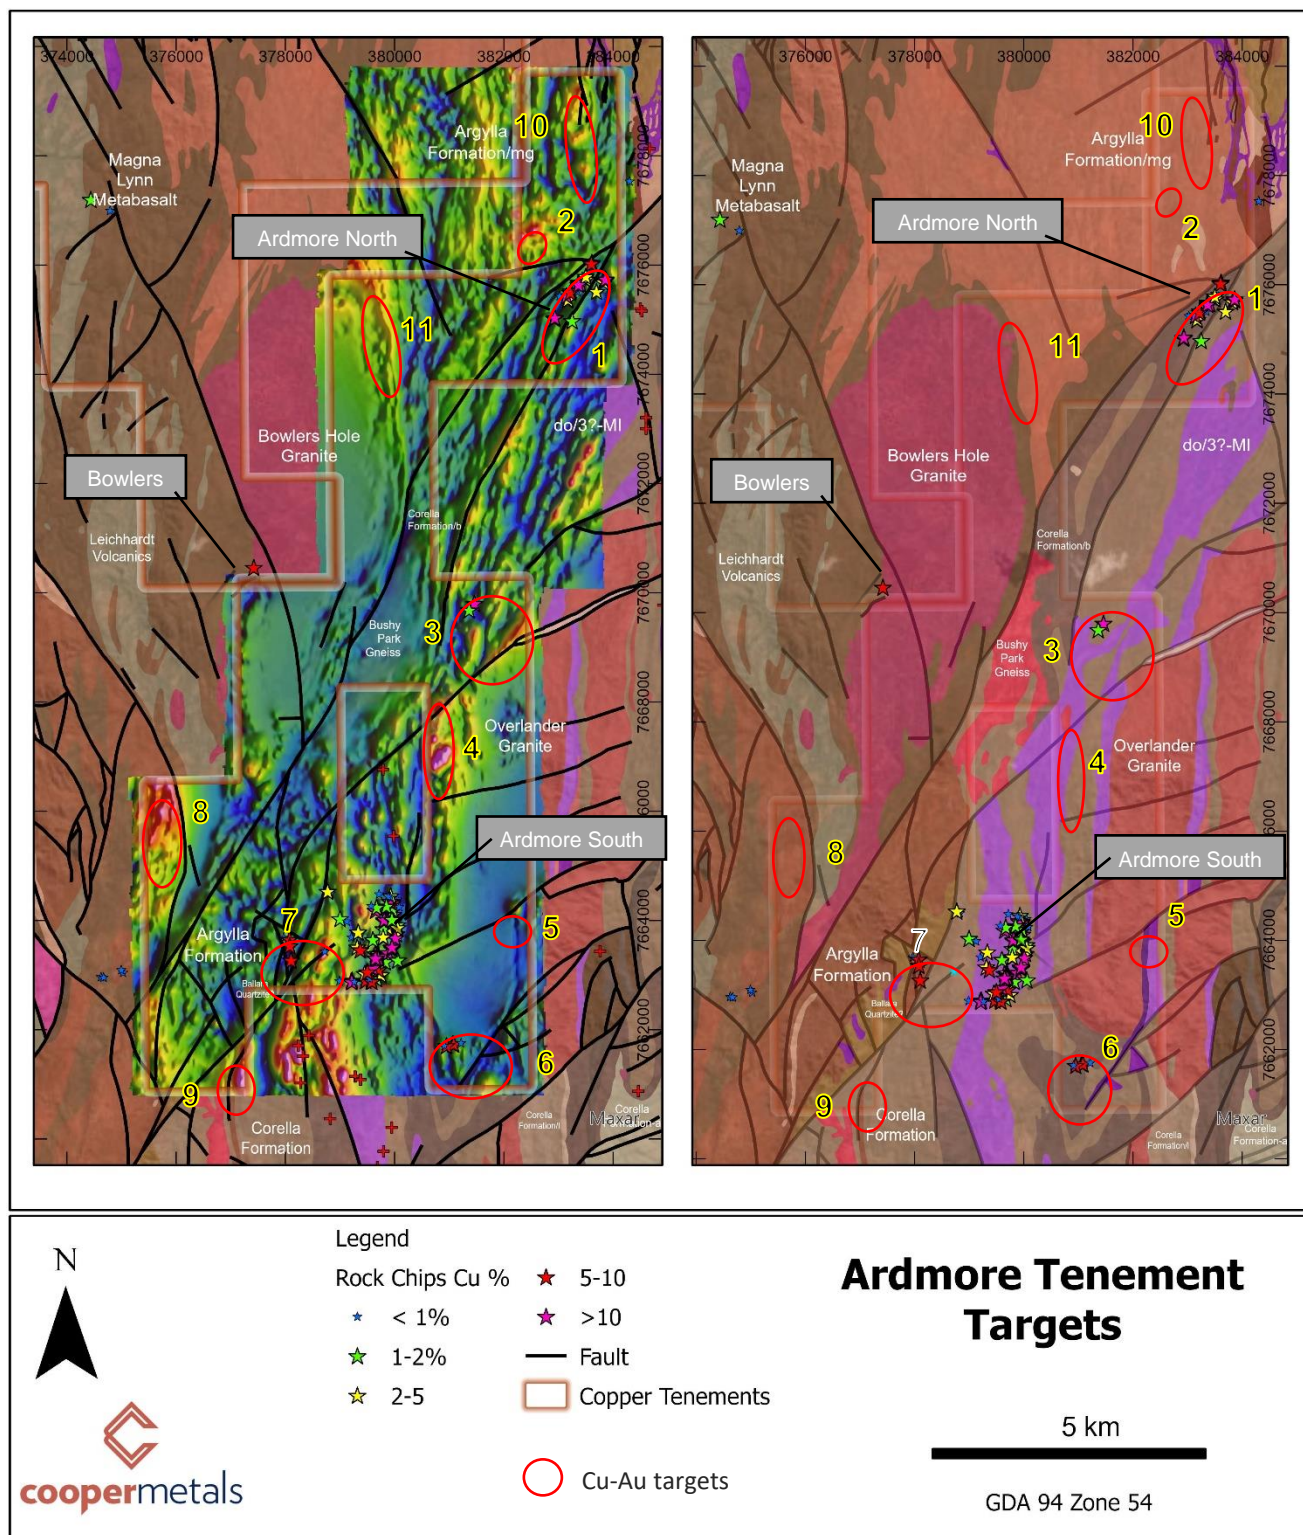
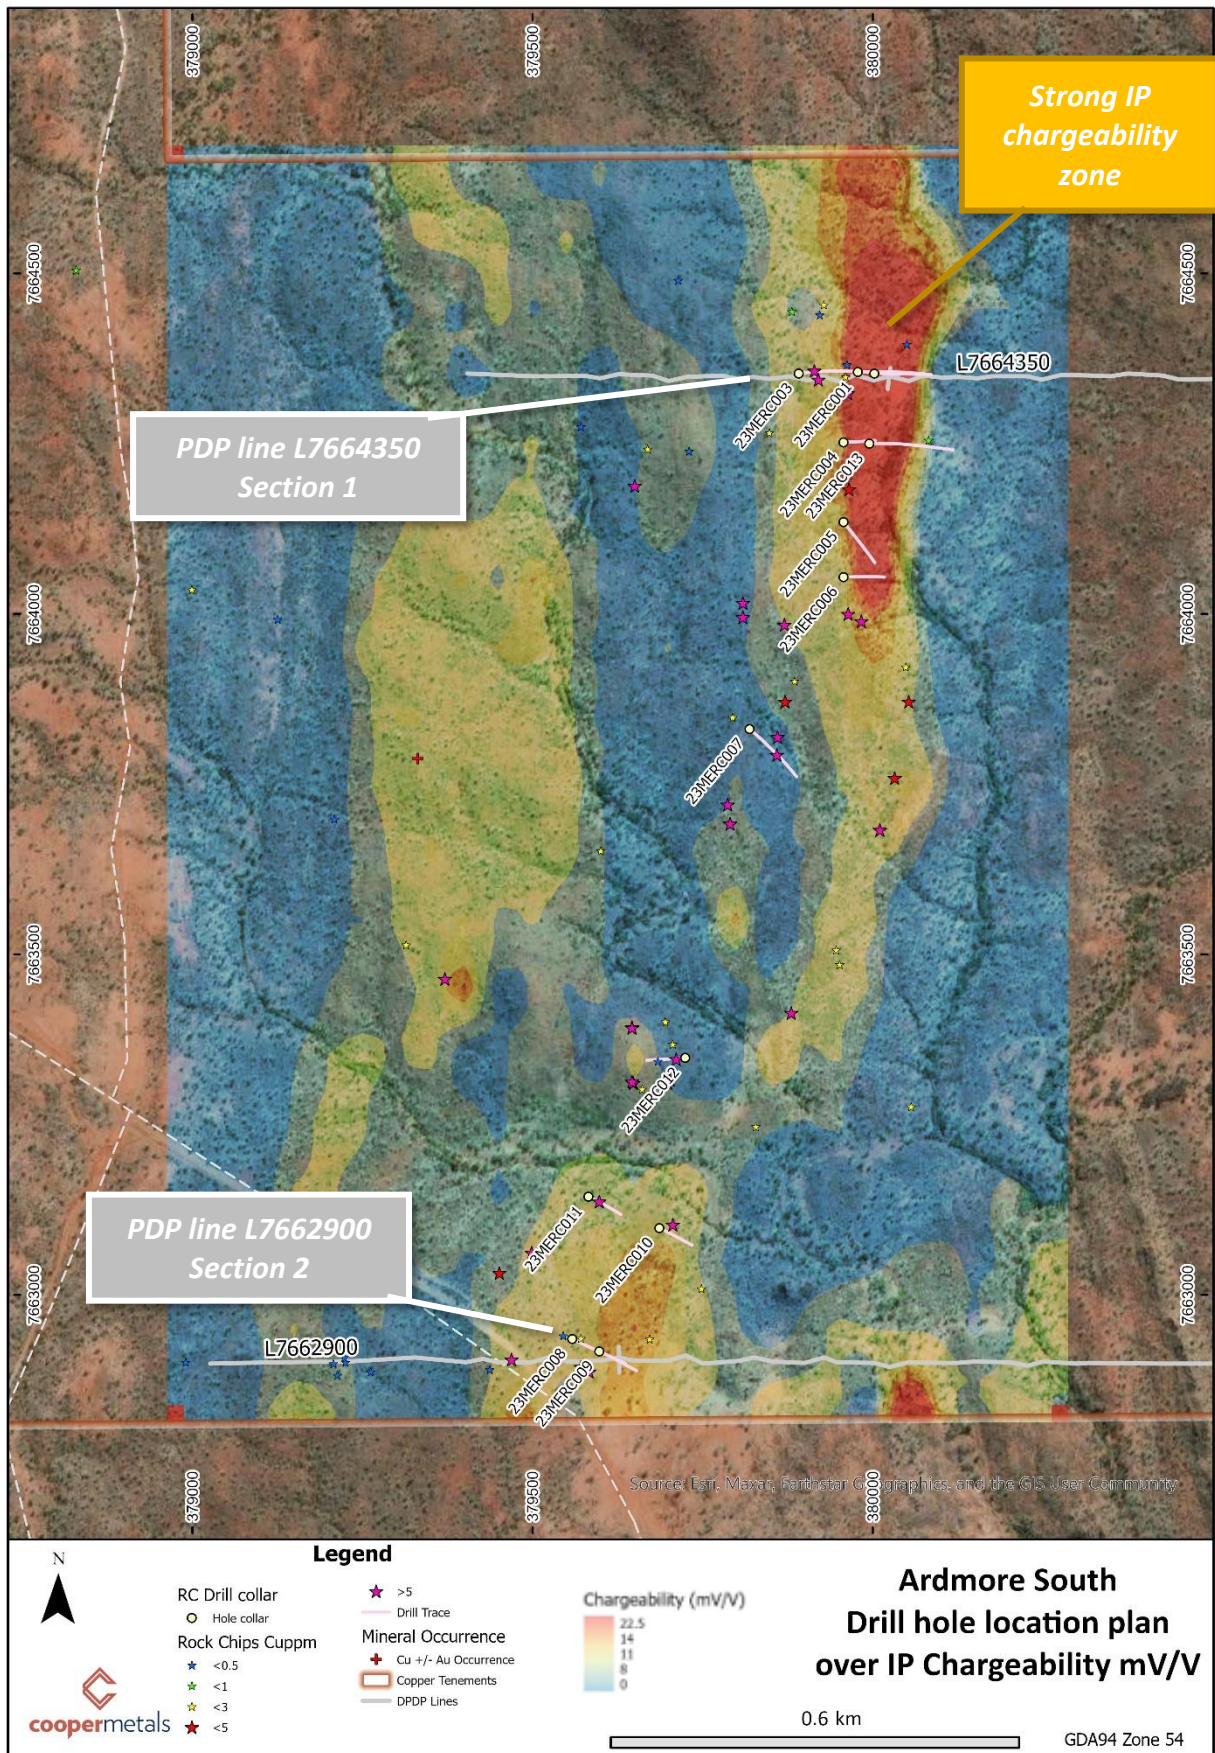
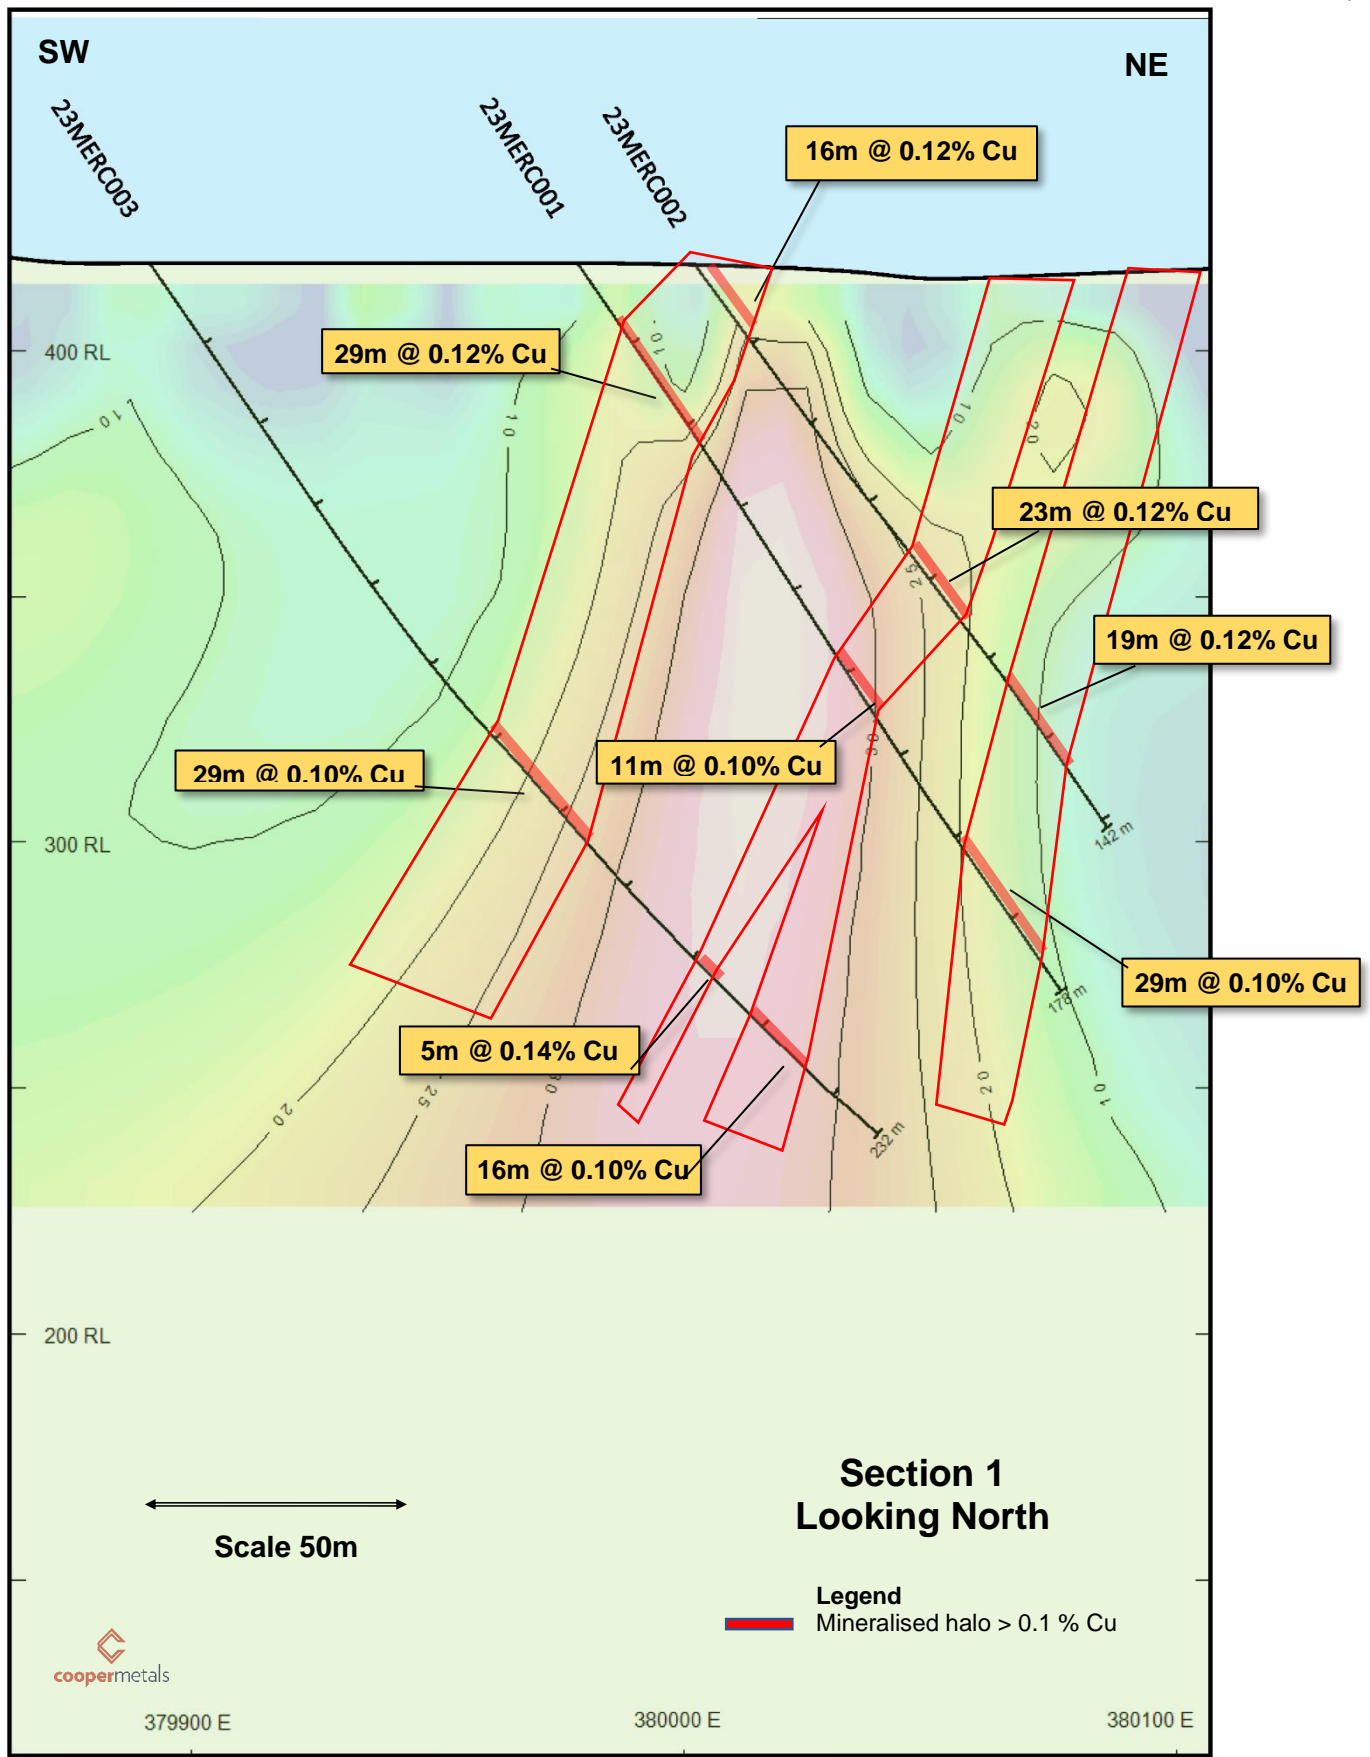
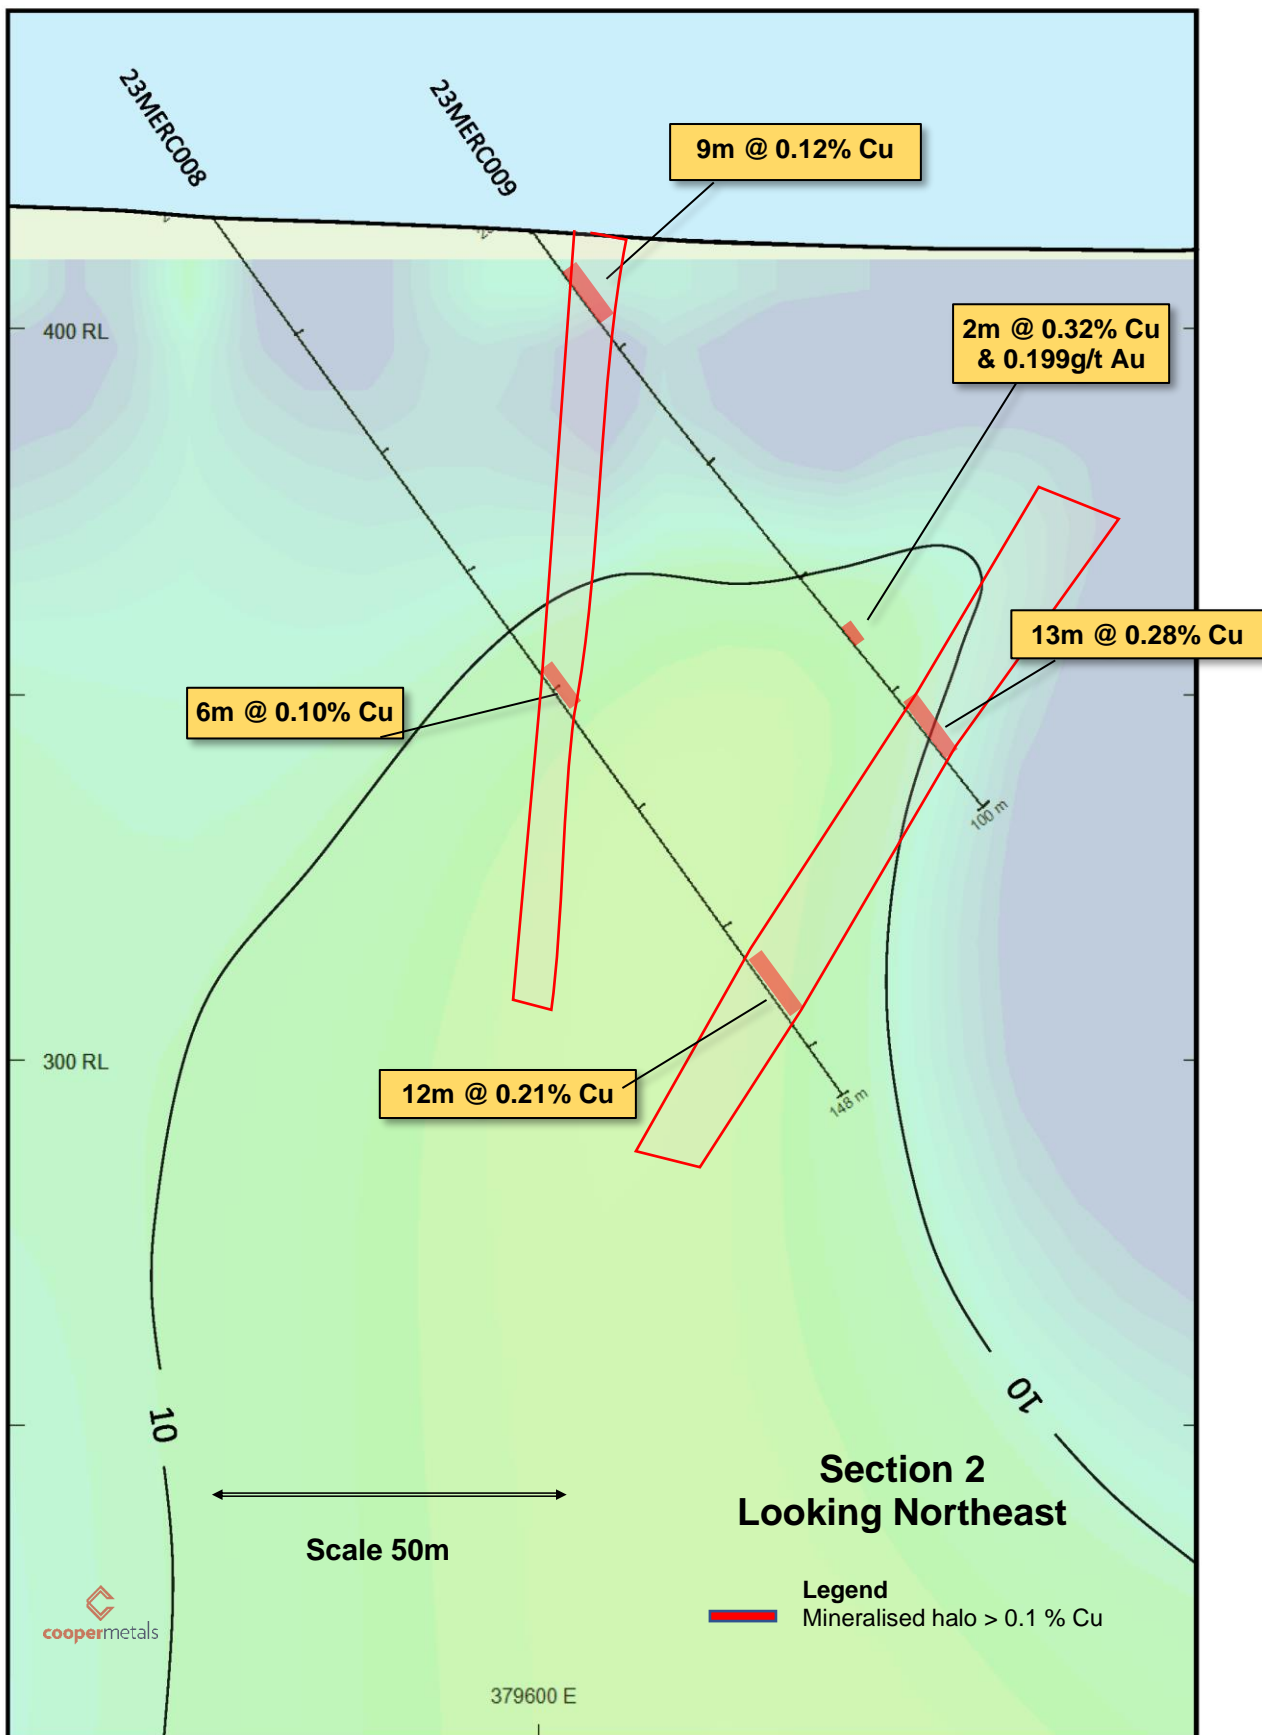

Figure 1: Ardmore prospectivity review Cu-Au targets (magnetic image left, geology right)
Figure 2: Location of rock chip samples and IP chargeability grid (mV/V) summary Ardmore South
Figure 4: Section 1 drill intercepts over IP Chargeability contours (Mv/V)
Figure 5: Section 2 drill intercepts over IP Chargeability contours (Mv/V)
Cooper Metals Limited (ASX: CPM) (“CPM” or “the Company”) is pleased to announce the results of an independent prospectivity review of the Ardmore Cu-Au tenement (Figure 1).
- **Eleven Cu-Au targets (Figure 1) have been identified in the review with some areas already partially sampled, confirming surface Cu-Au mineralisation returning rock chip results including;**
Most of the target areas are untested with a geochemical program currently in progress. A summary of the targets identified in the review appears in Table 1 and Figure 1.
Assay results are now received for the RC drilling at Ardmore South and they confirm broad areas of copper anomalism in most drill holes. A total of thirteen RC drill holes for 1,745m were drilled at Ardmore South prospect primarily testing the 500m long north-south striking strong induced polarisation (IP) chargeability anomaly and coincident copper-gold anomalism identified in soil and rock chip samples² (**Figure 1**).
Seven of the thirteen drill holes tested a strong IP chargeability anomaly, intersecting wide pyrite dominated sulphide zone over 100m downhole (**Figure 2**). Three zones of low-grade copper mineralisation ranging from 5 to 29m thick downhole and averaging 0.1 to 0.14% Cu are within the broad pyrite dominated sulphide halo (**Figure 4**).
Four drill holes (23MERC008 to 23MERC011) were drilled into the IP anomaly in the southern portion of the IP grid (**Figure 2**). Similarly, to the north, the holes intersected broad zones of trace to disseminated pyrite dominated sulphides. The pyrite sulphide zone is typically 50m wide down hole. Two zones of low-grade copper mineralisation are within the sulphide envelope, with the eastern zone 12-13m wide down hole and ranging from 0.21% Cu to 0.28% Cu and the western zone is approximately 7m wide downhole and 0.1% Cu (**Figure 5**). A list of RC drill holes and their locations appears in Appendix 1 and are shown in Figure 1.